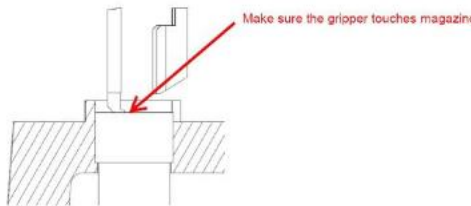

Figure 4-3 Adjustment position of gripper on magazine
- Insert **Pin A (from Jig (1))** into Vessel 1, 1 Position
- Perform Pulse Adjustment that the Gripper Hook (SUS) is touching the surface (Figure 4.3)
- Insert **Pin A (from Jig (1))** into Vessel 1, 15 Position
- Insert **Pin B (from Jig (1))** into Tip 7, 1 Position
- Insert **Pin B (from Jig (1))** into Tip 7, 15 Position